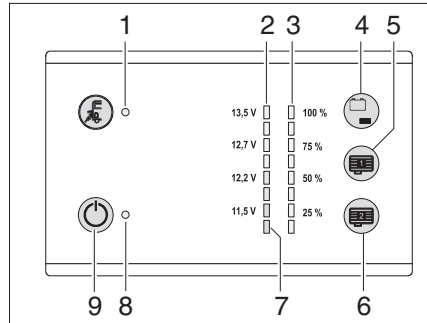

Fig. 92 Panel LT 101 / LT 102
The tank fill level of the water tank can be called up by using the sensor touchpad (Fig. 92,4).
- Touch the sensor touchpad (Fig. 92,4): The fill level of the water tank is indicated in four steps with the LEDs (Fig. 92,3) (25% to 100%).
The red warning LED (Fig. 92,7) flashes as soon as the voltage of the living area battery only still amounts to 11 V (measured under operation) and there is a risk of a total discharge.
The charging condition of the living area battery can be called up by using the sensor touchpad (Fig. 92,4).
*Displays:* ■ Touch the sensor touchpad (Fig. 92,4): The charging condition of the living area battery is displayed.
The 12 V main switch (Fig. 92,9) switches the panel and the 12 V power supply of the living area on and off.
*Switching on:* ■ Touch the sensor touchpad (Fig. 92,9): The 12 V living area power supply is switched on. The indicator lamp (Fig. 92,8) lights up green.
*Switching off:* ■ Touch the sensor touchpad (Fig. 92,9) again: The 12 V living area power supply is switched off. The 12 V indicator lamp (Fig. 92,8) goes off.
- ▷ If the warning LED total discharge (Fig. 92,9) flashes, the power supply cannot be switched on because the battery voltage is too low.